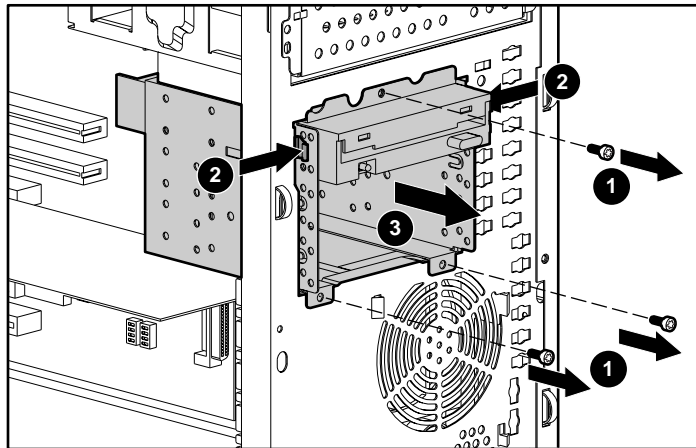

Figure 3-6. Removing the drive compartment
3. Remove the three shipping screws, press the tabs on each side of the drive compartment, and then pull the drive compartment from the chassis as shown in Figure 3-6.